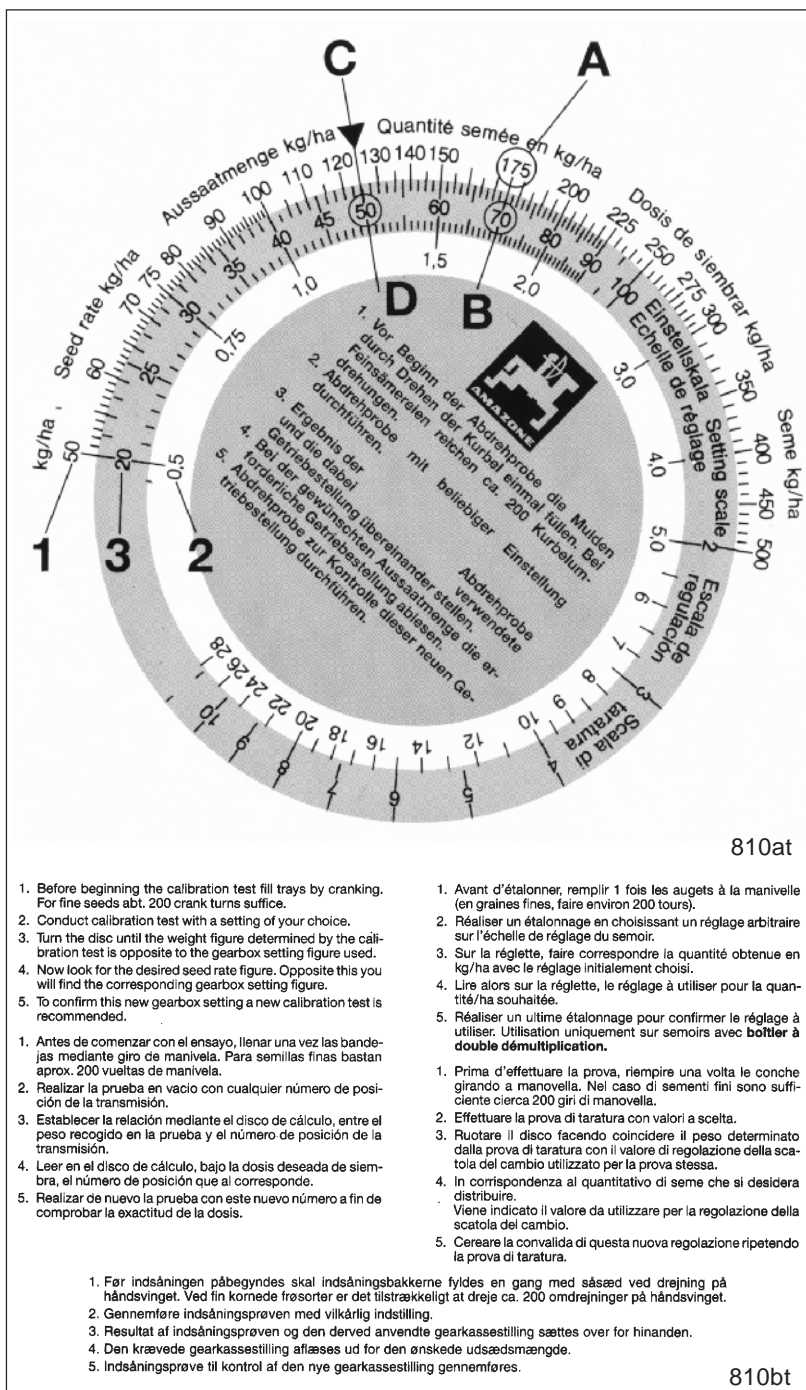

Fig. 16.9
The disc rule consists of three scales: One outer white scale (Fig. 16.9/1) for all seed rates above 30 kg/ha and an inner white scale (Fig. 16.9/2) for all seed rates below 30 kg/ha. On the central, coloured scale (Fig. 16.9/3) the gearbox settings from „1 to 100“ are printed.
- Align the seed rate 175 kg/ha (Fig. 16.9/A) and the gearbox setting figure „70“ (Fig. 16.9/B) on the disc rule.
- Now read off the disc rule the gearbox setting figure for the desired seed rate of 125 kg/ha (Fig. 16.9/C). In our example that is the gearbox setting „50“ (Fig. 16.9/D).